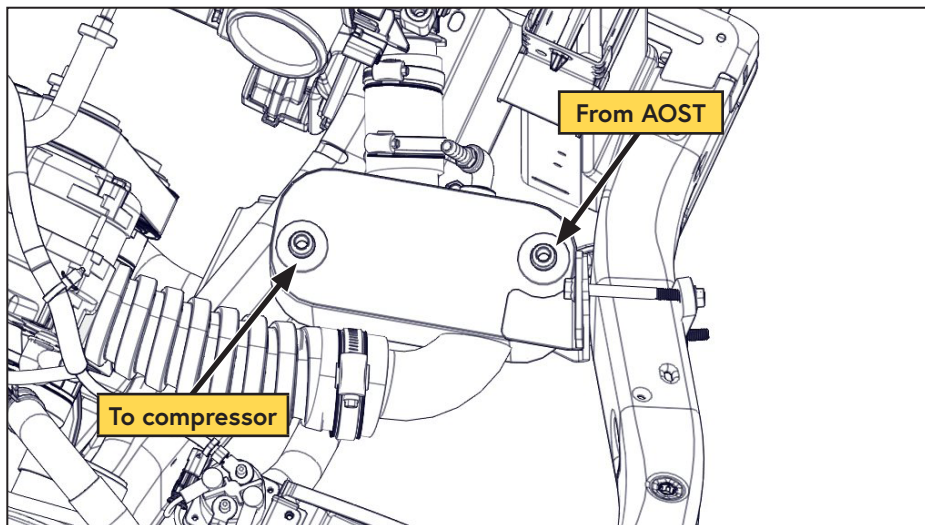

Figure 54 — Install hoses
- ☐ Connect the 90° fitting on the longer 1/2 in hose to the driver side fitting of the oil cooler (Figure 54).